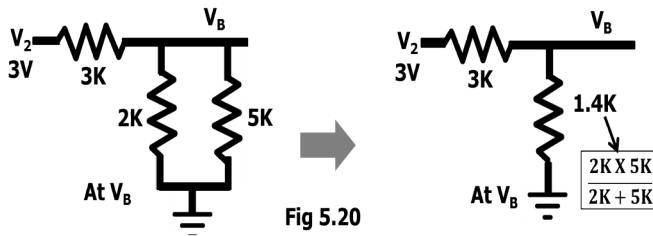

**Fig 5.19**
a) **V1 is connected** (Refer fig 5.19)